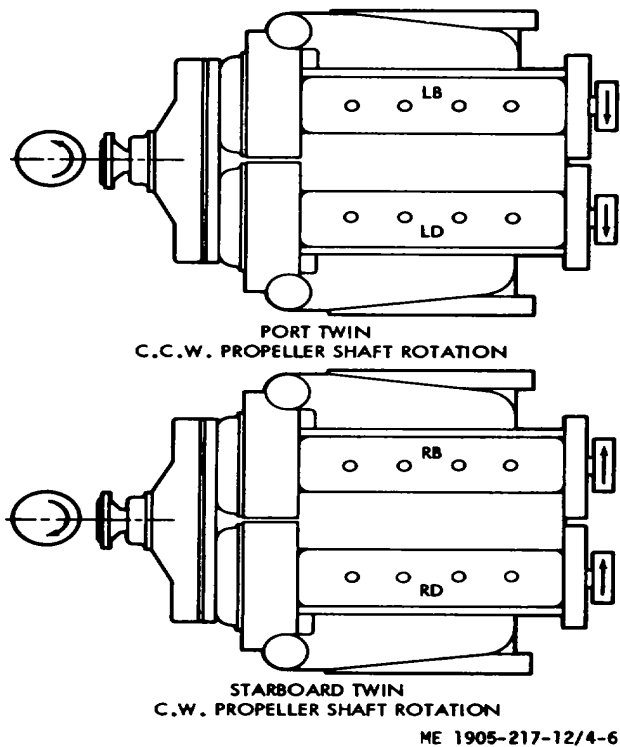

Figure 4-6. Engine arrangement
b. **Engine Arrangement.** Model 12005A is built for starboard installation. The two engines of this model are right-hand rotation engines, designated as RB and RD, and furnish clockwise propeller shaft rotation. Model 12006A is built for port installation. The two engines of this model are left-hand rotation engines, designated as LB and LD, and furnish counterclockwise propeller shaft rotation (fig. 4-6). Figure 4-7 illustrates the crankshaft rotation and accessory arrangement of the engines used in each unit. These views also show the direction of rotation of all gears in the train, as well as location of water-and exhaust-manifolds.